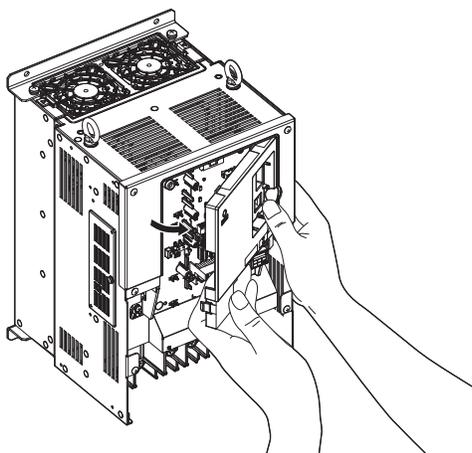

Figure 84 Remove the Front Cover (Models LU2M0085 to 2M0415, 4M0045 to 4M0216, and 5M0032 to 5M0172)
4. Unhook the left side of the front cover then swing the left side towards you as shown in Figure 84 until the cover comes off.